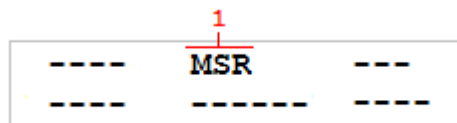

Fig. 3.3 A-RCS screen with RCS in bypass mode
After the correction preset is selected press the MENU button and then select the **A-RCS** screen. Note the change on this screen compared to the screen shown in Fig. 3.3 When the 2150 XDM is in a correction mode different than bypass (BP), the MSR menu option is disabled.